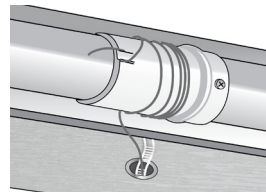

Figure 17: Motor Tube and Spool
1. Check how the cords are being wound onto the spools on the tube located on the shade head rail as the shade lifts and lowers. Make sure there are no snags and the cord is wrapping the same direction around each spool **[Figure 17]**.